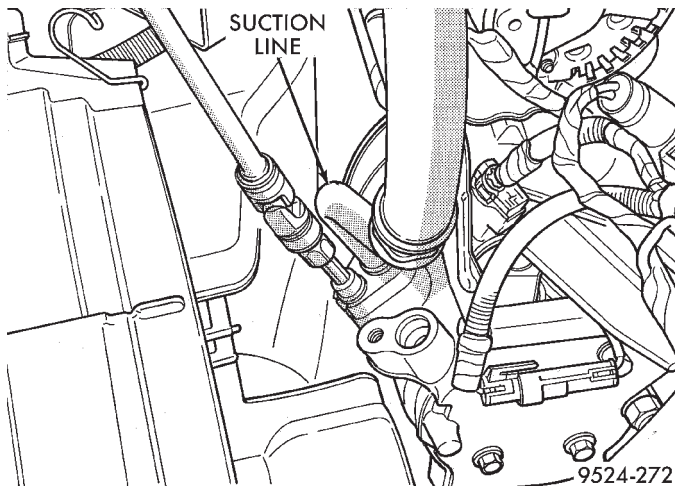

Fig. 72 Suction Line At Compressor
- (4) Disconnect line at compressor end (Fig. 72).
- (5) Remove suction line from vehicle.